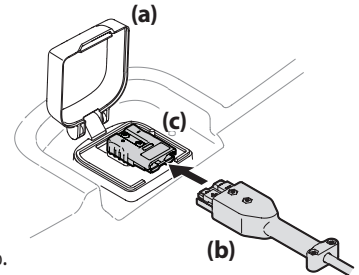

Figure 11
1. Lift the charge port cover (a). See Figure 11.
3. Plug charger power cord (b) into wall receptacle (outlet). See Figure 11.